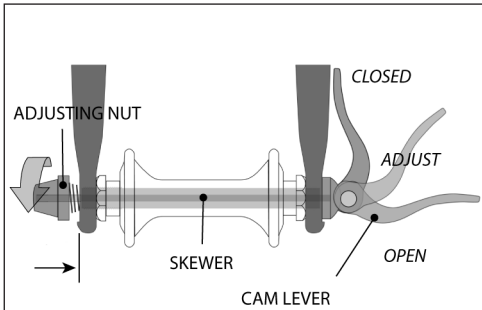
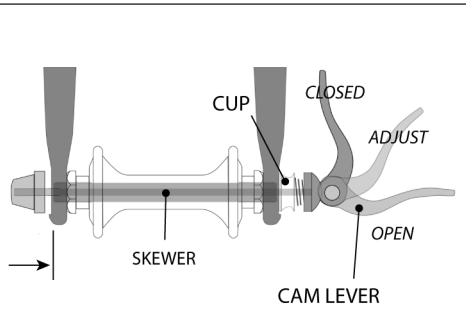
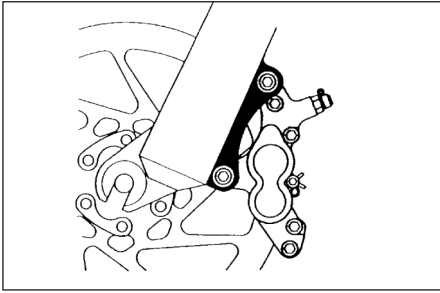
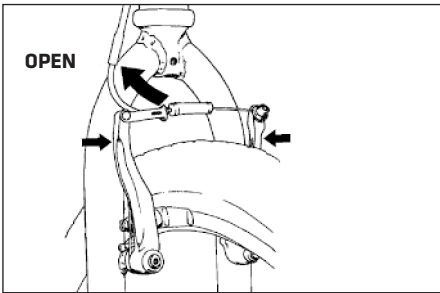

FIGURE 8a
FIGURE 8b
Figure 11.
Figure 12.
- A hollow axle with a shaft ("skewer") running through it which has an adjustable tension nut on one end and an over-center cam on the other (cam action system, fig.8a & 8b).
There are currently two types of over-center cam wheel retention mechanisms: the traditional over-center cam (fig. 8a) and the cam-and-cup system (fig. 8b). Both use an over-center cam action to clamp the bike's wheel in place. Your bicycle may have a cam-and-cup front wheel retention system and a traditional rear wheel cam action system.
a. Adjusting the traditional cam action mechanism (fig. 8a)
b. Adjusting the cam-and-cup mechanism (fig. 8B)
- (1) If your bike has rim brakes, disengage the brake's quick-release mechanism to increase the clearance between the tire and the brake pads (See Section 4.C fig. 11 through 15).
- (2) If your bike has cam action front wheel retention, move the cam lever from the locked or CLOSED position to the OPEN position (figs. 8a & b). If your bike has through bolt or bolt-on front wheel retention, loosen the fastener(s) a few turns counter-clockwise using an appropriate wrench, lock key or the integral lever.
- (3) If your front fork has a clip-on type secondary retention device, disengage it. If your front fork has an integral secondary retention device, and a traditional cam action system (fig. 8a) loosen the tension adjusting nut enough to allow removing the wheel from the dropouts. If your front wheel uses a cam-and-cup system, (fig. 8b) squeeze the cup and cam lever together while removing the wheel. No rotation of any part is necessary with the cam-and-cup system.
- (1) If your bike has cam action front wheel retention, move the cam lever so that it curves away from the wheel (fig. 8b). This is the OPEN position. If your bike has through bolt or bolt-on front wheel retention, go to the next step.
- (2) With the steering fork facing forward, insert the wheel between the fork blades so that the axle seats firmly at the top of the fork dropouts. The cam lever, if there is one, should be on rider's left side of the bicycle (fig. 8a & b). If your bike has a clip-on type secondary retention device, engage it.
- (3) If you have a traditional cam action mechanism: holding the cam lever in the ADJUST position with your right hand, tighten the tension adjusting nut with your left hand until it is finger tight against the fork dropout (fig. 8a). If you have a cam-and-cup system: the nut and cup (fig. 8b) will have snapped into the recessed area of the fork dropouts and no adjustment should be required.
- (4) While pushing the wheel firmly to the top of the slots in the fork dropouts, and at the same time centering the wheel rim in the fork:
- (a) With a cam action system, move the cam lever upwards and swing it into the CLOSED position (fig. 8a & b). The lever should now be parallel to the fork blade and curved toward the wheel. To apply enough clamping force, you should have to wrap your fingers around the fork blade for leverage, and the lever should leave a clear imprint in the palm of your hand.
- (2) If your bike has rim brakes, disengage the brake's quick-release mechanism to increase the clearance between the wheel rim and the brake pads (see Section 4.C, figs. 11 through 15).
- (3) On a derailleur gear system, pull the derailleur body back with your right hand.
- (4) With a cam action mechanism, move the quick-release lever to the OPEN position (fig. 8b). With a through bolt or bolt on mechanism, loosen the fastener(s) with an appropriate wrench, lock lever or integral lever; then push the wheel forward far enough to be able to remove the chain from the rear sprocket.
- (5) Lift the rear wheel off the ground a few inches and remove it from the rear dropouts.
Some bikes are equipped with a cam action seat post binder. The seat post cam action binder works exactly like the traditional wheel cam action fastener (Section 4.A.2) While a cam action binder looks like a long bolt with a lever on one end and a nut on the other, the binder uses an over-center cam action to firmly clamp the seat post (see fig. 8a).
3. Some bicycle brakes, such as disc brakes (fig. 11) and linear-pull brakes (fig.12), are extremely powerful. Take extra care in becoming familiar with these brakes and exercise particular care when using them.
Most rim brakes have some form of quick-release mechanism to allow the brake pads to clear the tire when a wheel is removed or reinstalled. When the brake quick release is in the open position, the brakes are inoperative. Ask your dealer to make sure that you understand the way the brake quick release works on your bike (see figs. 12, 13, 14 & 15) and check each time to make sure both brakes work correctly before you get on the bike.